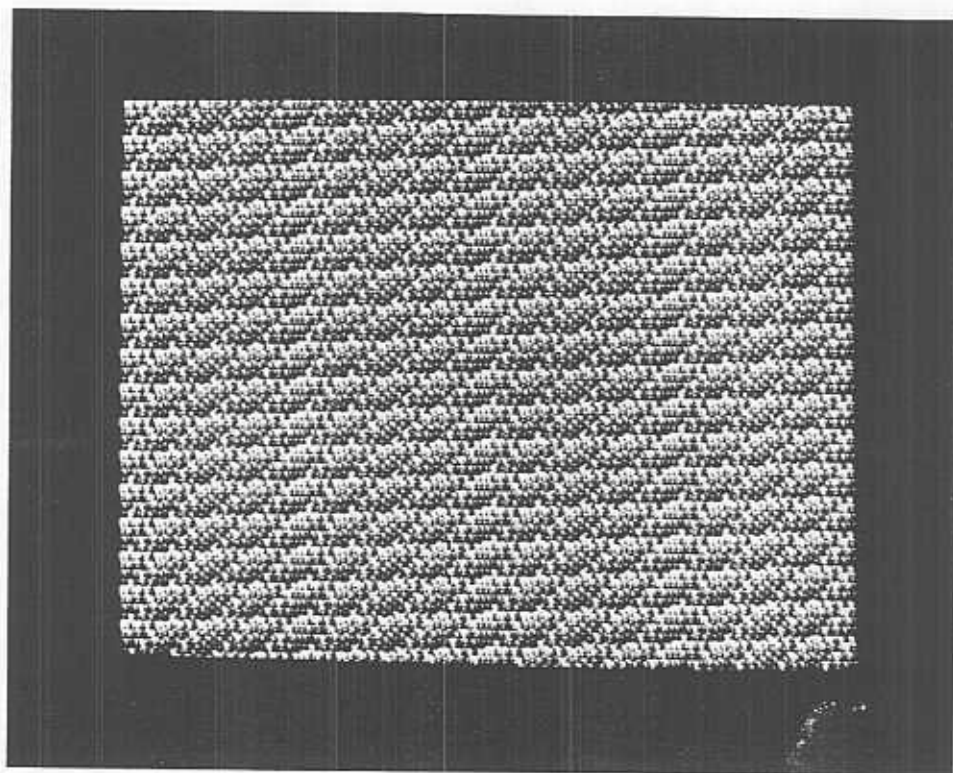

Figure 2-7. CRT Test Pattern 2
- g. The pincushion test pattern (CRT test pattern 4) shown in figure 2-7. This remains for about 3 seconds.